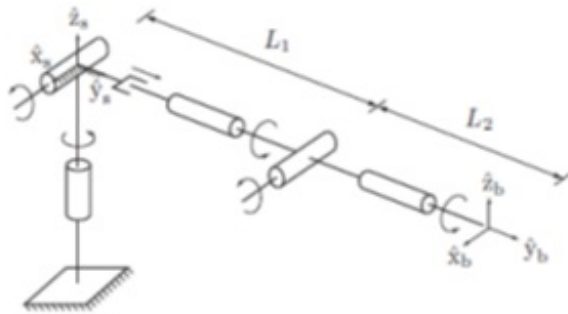

Figure 3
- B) Explain the following with a suitable example: (6)
C) Find the X-Y-Z fixed angle and substitute $\alpha = 90, \beta=60, \gamma=30$ (6)
4) Identify the orientation of the Figure3 end effector using exponential formula. (6)